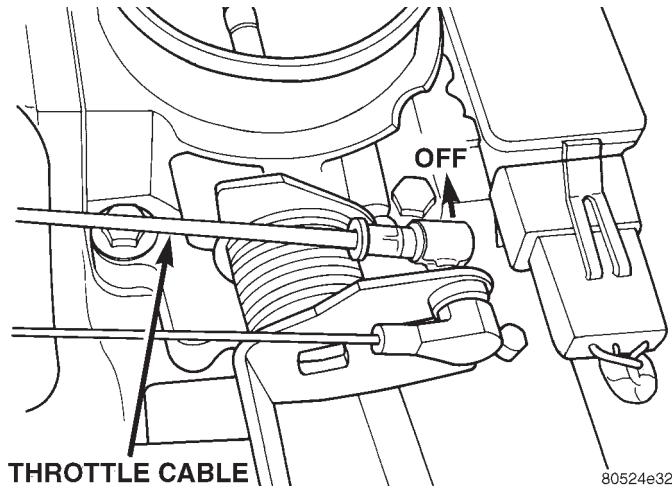
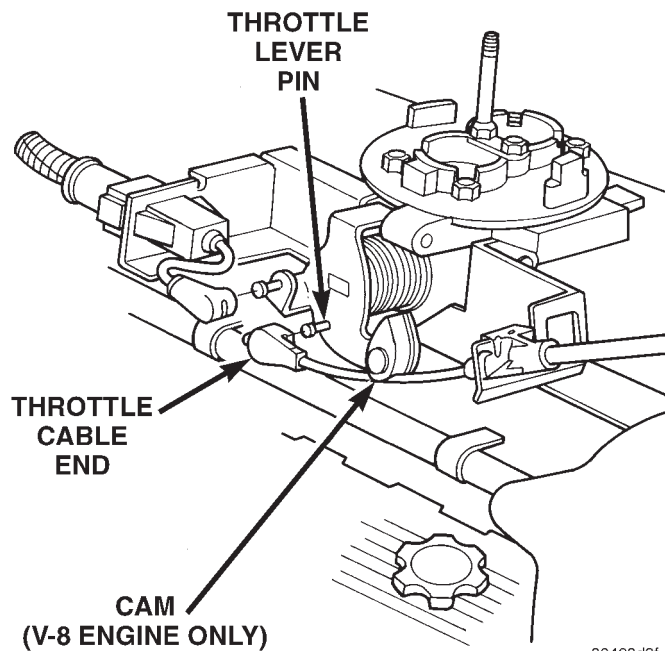

Fig. 42 Throttle Cable at Throttle Body—4.0L Engine
Fig. 43 Throttle Cable at Throttle Body—5.2L/5.9L V-8 Engines
(5) Remove the throttle cable ball end socket at throttle body linkage (Fig. 42) or (Fig. 43) (snaps off).